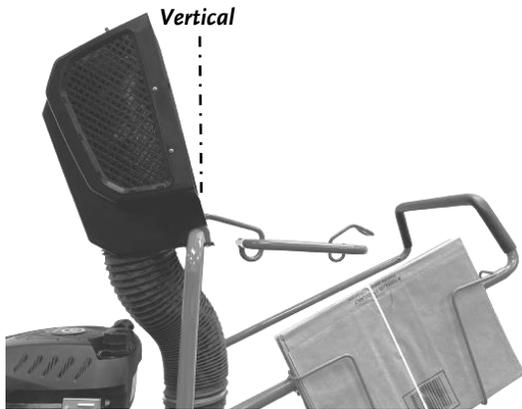

Figure 15
1. Locate the Cover Latch Handle (**Figure 14**), then lift the handle to open the Bag Top Cover. Lift the Bag Top Cover just past vertical where the Bag Top Cover will stay up by itself. (**Figure 15**).